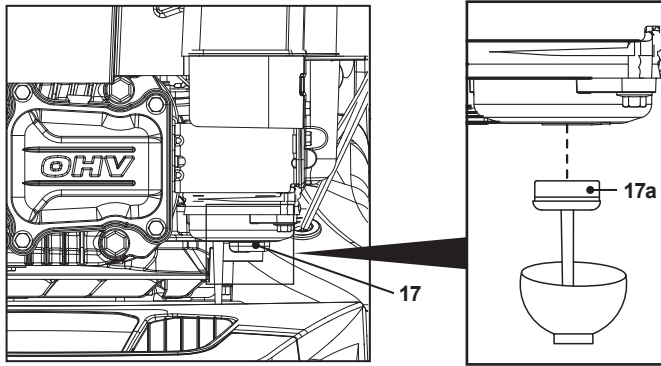

Fig. 34
3. Unscrew the fuel drain screw (17a) and let the fuel run into the container (Fig. 34).